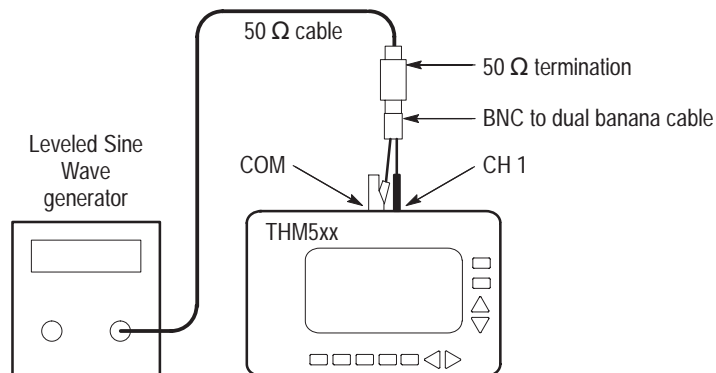

Figure 8: Analog bandwidth test setup
- 1. Connect the leveled sine wave generator output to the THM500 series instrument CH 1 and COM inputs. Use a 50 Ω termination as shown in Figure 8. Assume that the ground connection for each adapter connects to the common (or ground) connector of its associated instrument.